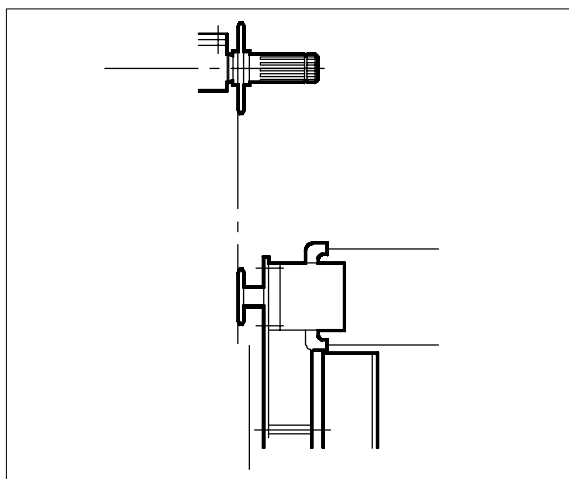
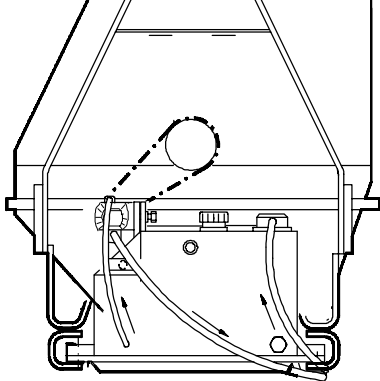

Fig.5. Line up the sprockets before welding the adaptation plate to the chipper's legs.
Fig.6. Fastening the hydraulic unit to the CH160
5. The sprockets must be lined up (fig.5.) before welding the adaptation plate to the chipper's legs when using the CH160 or CH260B (fig. 6. and 8.)